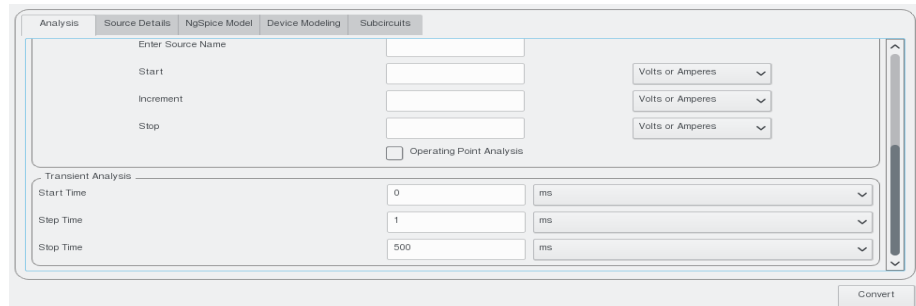

Figure 7.5: Choose analysis type as ‘transient’ and enter the values
**Analysis:** Choose analysis type as ‘Transient’. Give the values of time variables as shown in Figure 7.5. Enter the time to be varied from ‘Start time=0 ms’ to ‘Stop time=500ms’ with a ‘Step time=1 ms’.